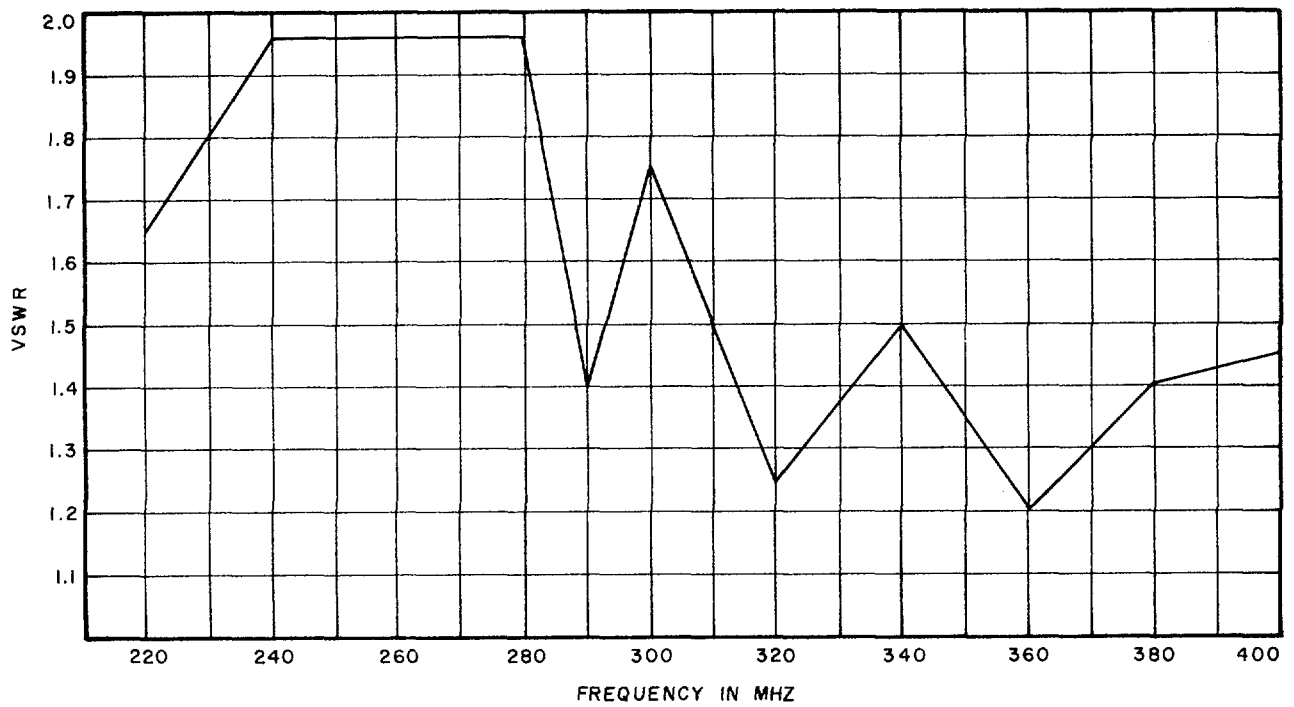

Figure 4-18. Antenna AS-1404/PRC-41, Voltage Standing-Wave Ratio
(2) ANTENNA AS- 1404/PRC -41. - Antenna AS-1404/PRC-41 is used with RT-695A/PRC-41 for reception and transmission of signals in the 225.0- to 399.9-MHz range without electrical or physical adjustments. The AS-1404/PRC-41 has a nominal input impedance of 50 ohms. The azimuthal plane voltage pat-terns are shown in figure 4-17forseveralfrequencies in the range. These patterns apply when AS-1404/ PRC-41 is mounted and operated on RT-695A/PRC-41. The voltage standing-wave ratios for frequencies between 220 and 400 MHz are shown in figure 4-18 when the AS-1404/PRC-41 is mounted and operated on the RT-695A/PRC-41. When AS-1404/PRC-41 is operated on Mast AB-777/PRC-41, the voltage standing-wave ratio properties and the voltage patterns are approximately the same as when operated on RT-695A/PRC -41.